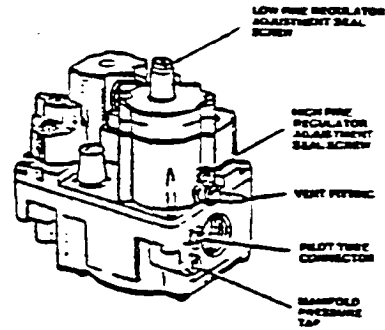

Fig. 1
5. Apply pipe joint compound (pipe dope) that is approved for all gases, only to the male threads of the pipe joints. **DO NOT** apply compound to the first two threads (see fig. 1 for typical piping connections).